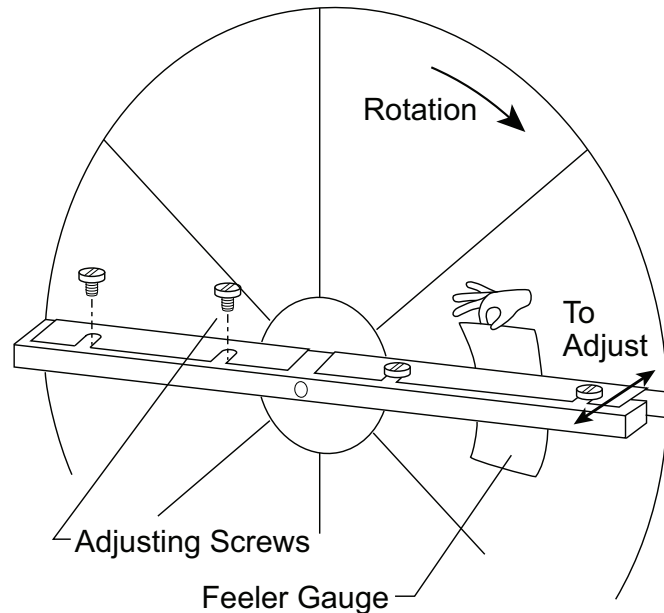

Fig. 46 — Diameter Seal Adjustment
- Loosen diameter seal adjusting screws and back seals away from the wheel surface. See Fig. 46.